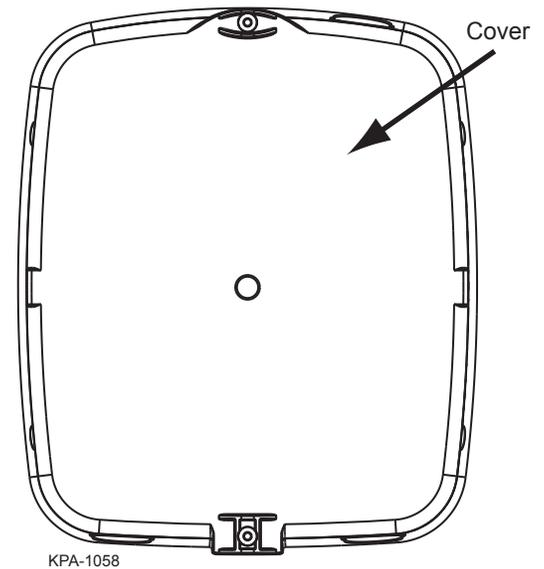

Figure 3
**Step 4:** Place the cover on the slack storage device (Figure 3).